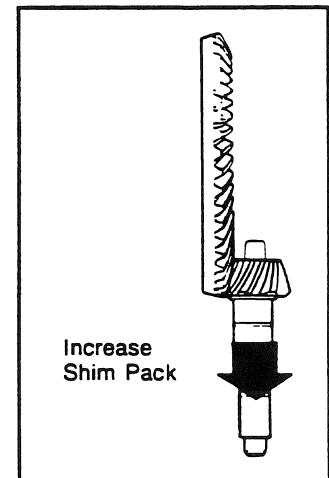

Fig. 85
c) To correct a low contact pattern (see Fig. 82), increase the shim pack thickness under the bearing cage. When you increase the shim pack thickness, the drive pinion moves away from the ring gear (see Fig. 85).